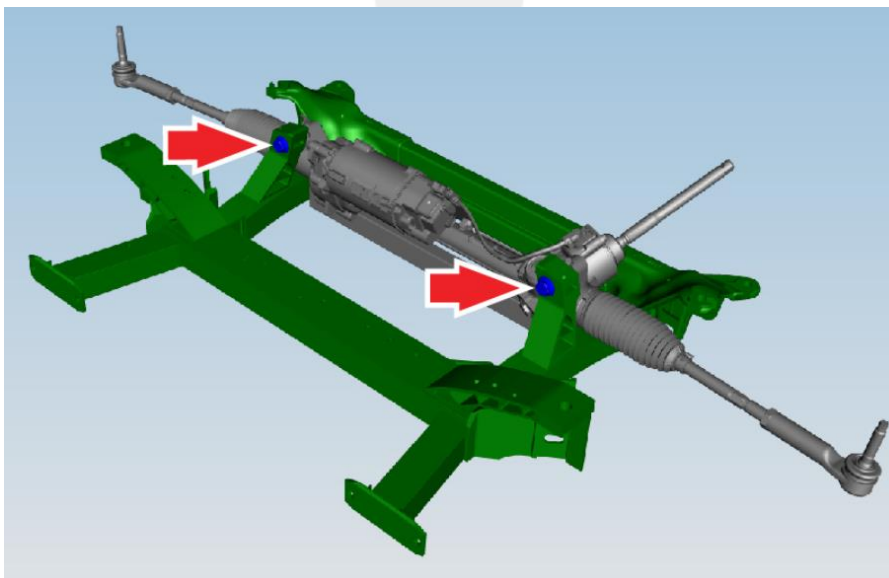

Figure 2
7. Remove the LH and RH steering rack mounting bolts that attach the steering rack to the front subframe (Figure 2).